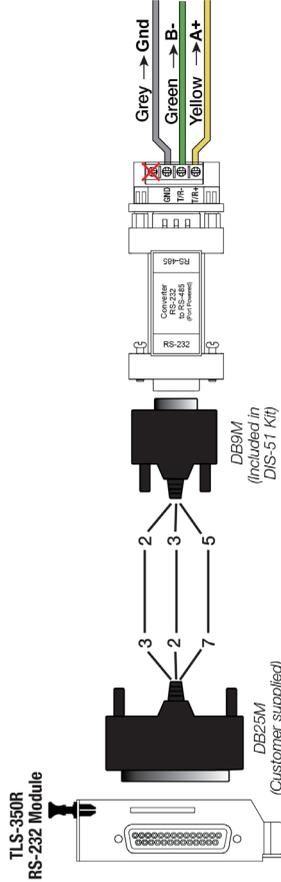

Figure 3. Serial Comm Wiring Input Options
1. Attach the RS-485 cable from the DIS-51 to TLS2P Serial Port 2 connector (J8) as shown in Figure 3.
Figure 3 shows the wiring connection between the DIS-51 junction box and a TLS-350R RS-485 Interface Module.
Figure 3 shows the wiring connection between the DIS-51 junction box and the TLS-350R RS-232 Interface Module.
Figure 3 shows the wiring connections between the DIS-51 junction box and the TLS4 Serial 2 Port.
Figure 3 shows the wiring connections between the DIS-51 junction box and the TLS-450/TLS-450PLUS RS-485 Port.